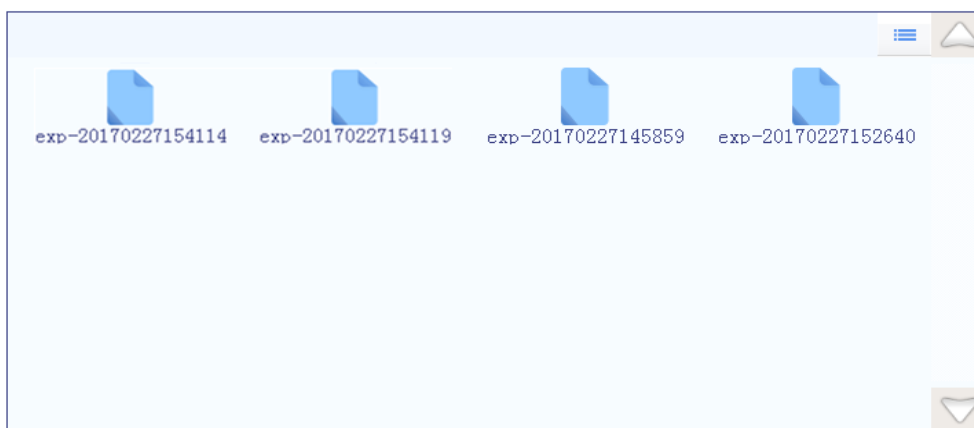

Figure E-2.1. Experiment File Tab - Experiment File Display Area
- Experiment File Displaying Area:** display the pre-existed experiment templates and experiment files or file folders within the instrument system, as shown in figure E-2.1.